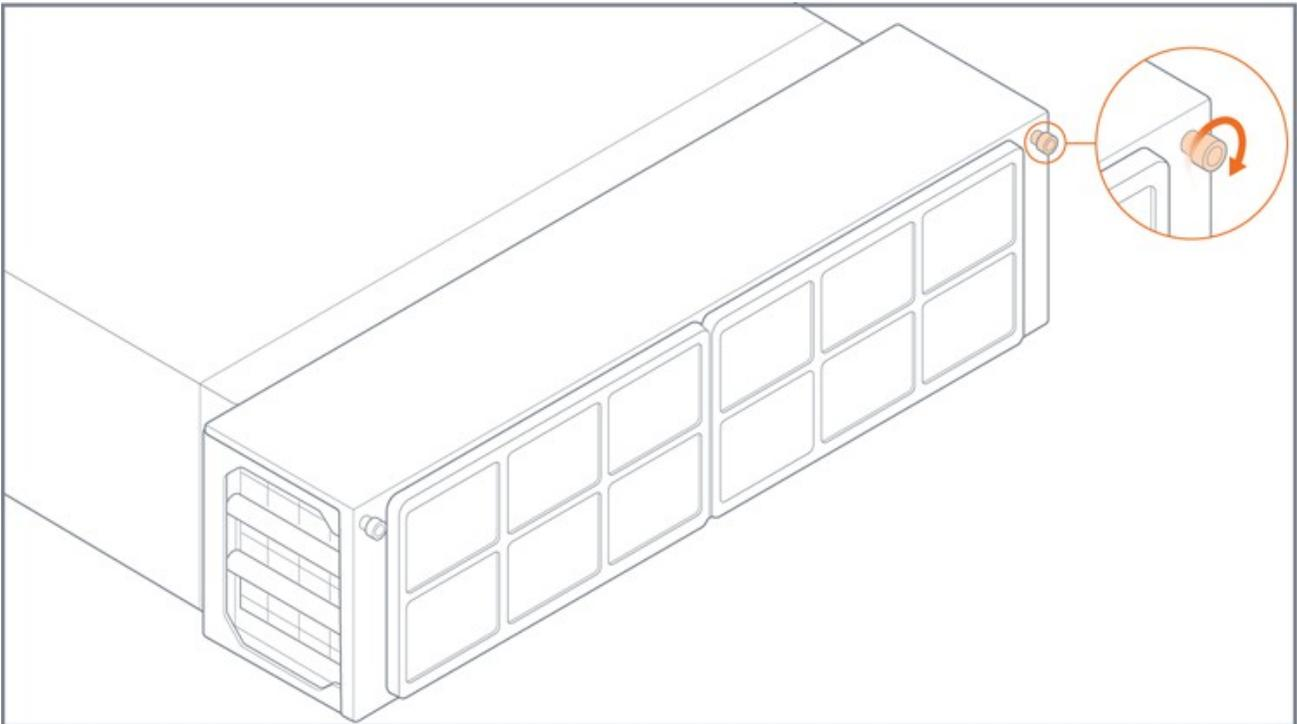

Figure 3-8: External Air Filter
5. Slide the top and front, which contains the external air filter, onto the cable management assembly. Refer to Figure 3-8 .